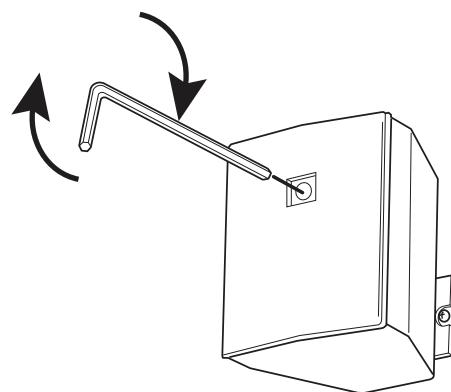

Fig. 6
6. Tighten the clamp just enough to hold the speaker while it is positioned in its desired orientation. When the speaker is in the desired direction, tighten the InvisiBall clamp as shown in Fig. 6 and replace the logo badge.